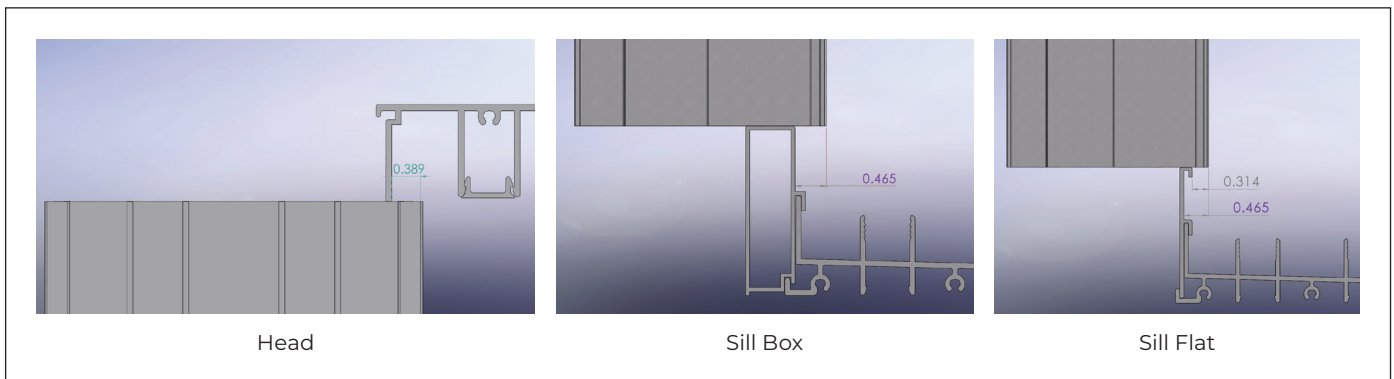

Figure 25
12. **If a panel** is not available to set the location of the p-hook from inside to outside then align the p-hook with the riser and header as shown. (See Figure 25)